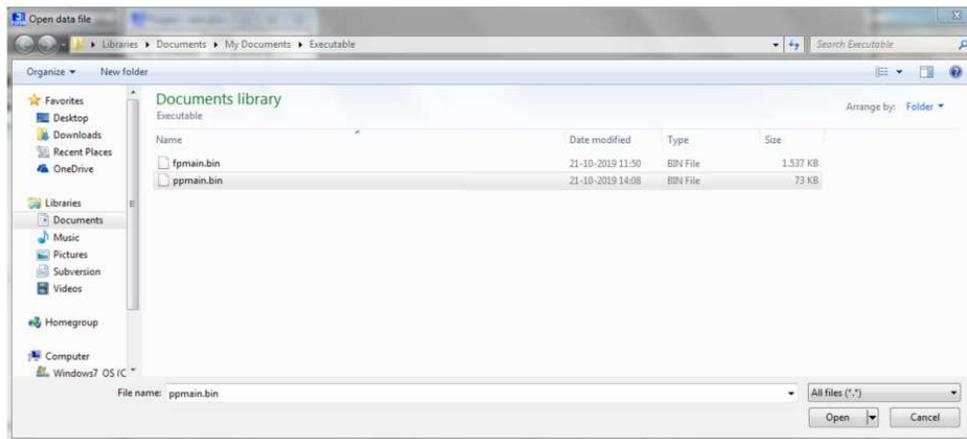

Figure 23: Select data file [LoadFile\_2]
9. The Explorer window “Open data file” opens. Select File type “.bin”, then select file “ppmain.bin” and click “open” (Figure 23,  STMA-69146);